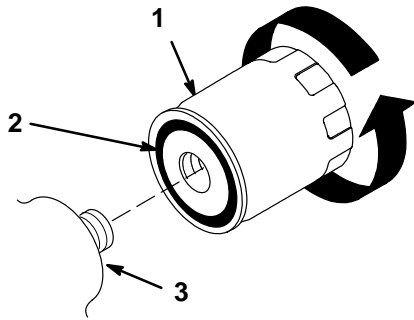

Figure 17
3. Apply a thin coat hydro fluid to the rubber gasket on the replacement filter (Fig. 17).
4. Install replacement hydraulic filter onto the filter adapter. Tighten clockwise until the rubber gasket contacts the filter adapter, then tighten the filter an additional 1/2 turn (Fig. 17).